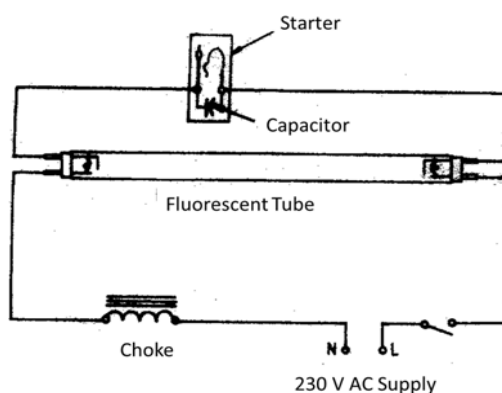

Fig. 1 Circuit Diagram of Fluorescent Tube Light
4. Replace the faulty components (if any) & assemble all accessories & connect as per circuit shown in Fig.1